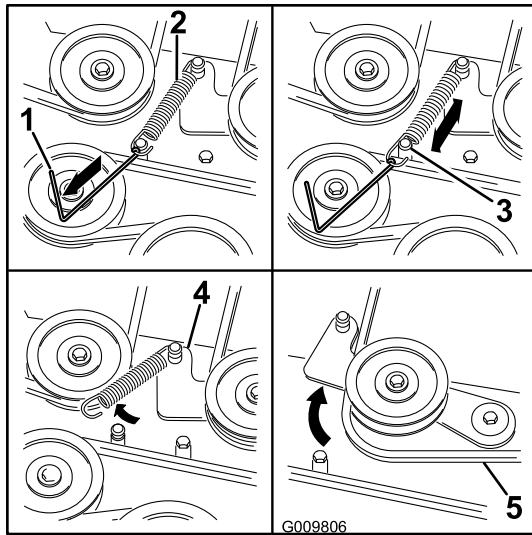

Figure 61
7. Using a spring removal tool, (Toro Part No. 92-5771), remove the idler spring from the deck post to remove tension on the idler pulley (Figure 61).
10. Install the new belt around the mower pulleys and the clutch pulley under the engine (Figure 61).
11. Using a spring-removal tool, (Toro Part No. 92-5771), install the idler spring over the deck post and placing tension on the idler pulley and mower belt (Figure 61).